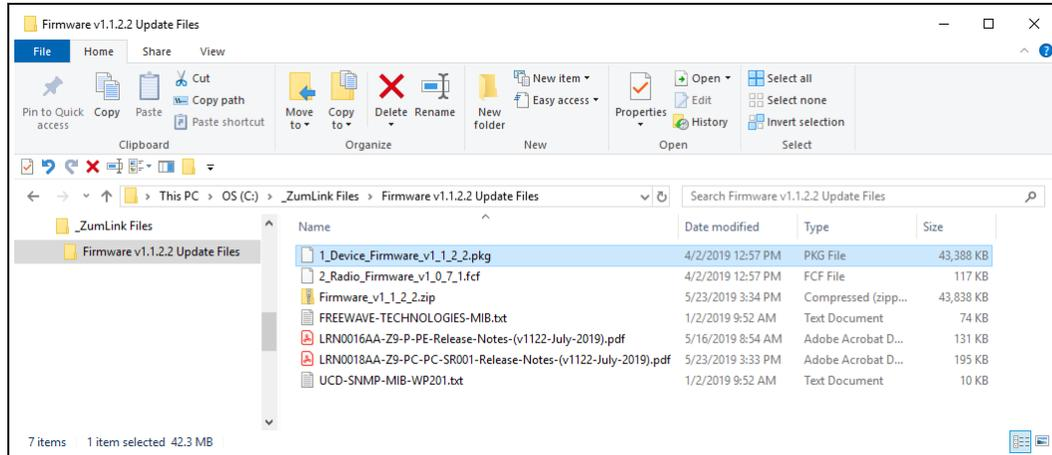

Figure 20: Selected **1_Device_Firmware_v1_1_2_2.pkg** File
5. Locate and select the downloaded **1_Device_Firmware_v1_1_2_2.pkg** update file. Figure 20